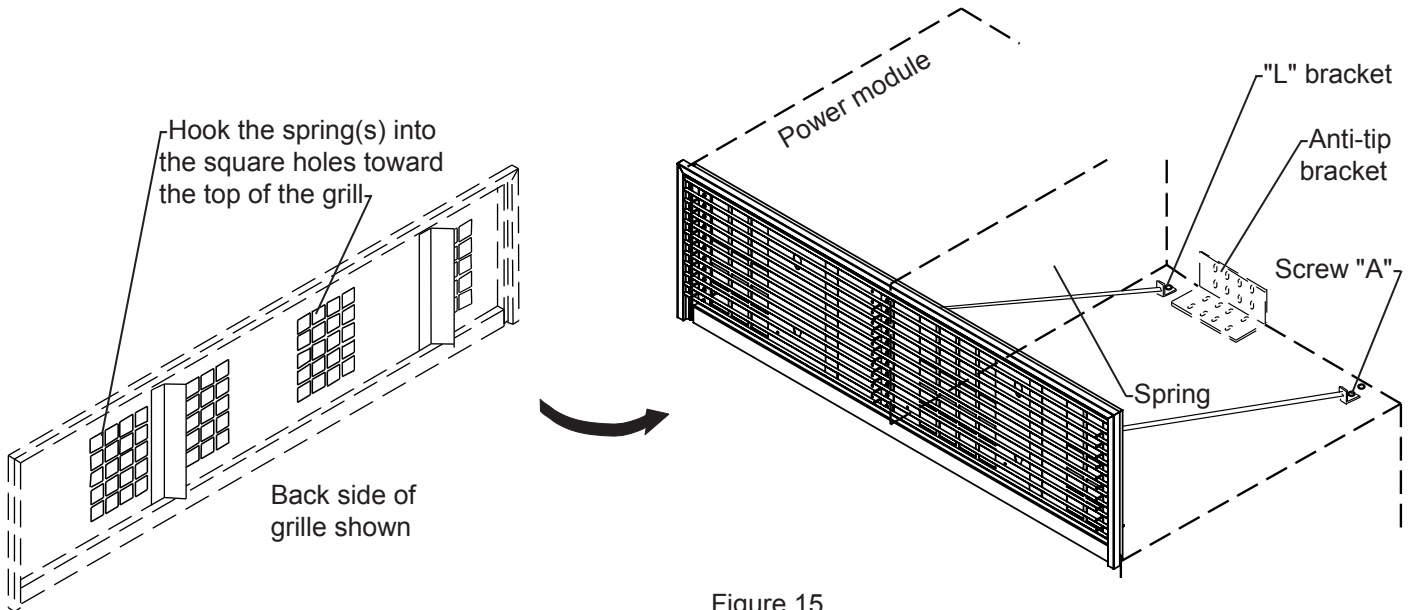

Figure 15
1. Remove screw A in mounting bracket. Mount L-bracket with screw A. See Figure 15.